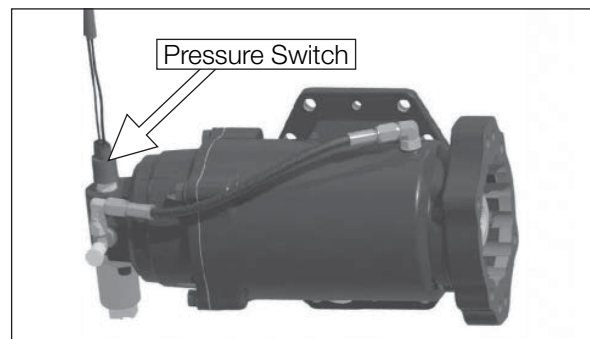

Figure 29
2. Install the PTO pressure switch onto port on the hydraulic valve cap. Torque to 10-12 lb-ft [13-16 N-m] (**Fig. 29**).